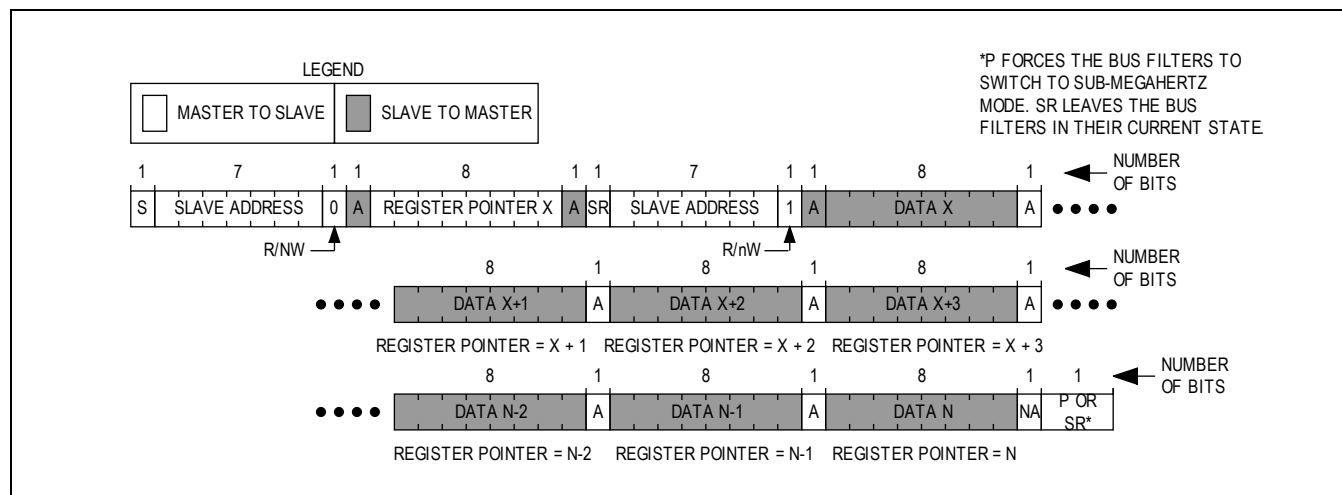

Figure 29. Reading Continuously from Sequential Registers X to N
Figure 29 shows the protocol for reading from sequential registers. This protocol is similar to the read byte protocol except the controller issues an acknowledge to signal the device that it wants more data: when the controller has all the data it requires it issues a not acknowledge (nA) and a stop (P) to end the transmission.